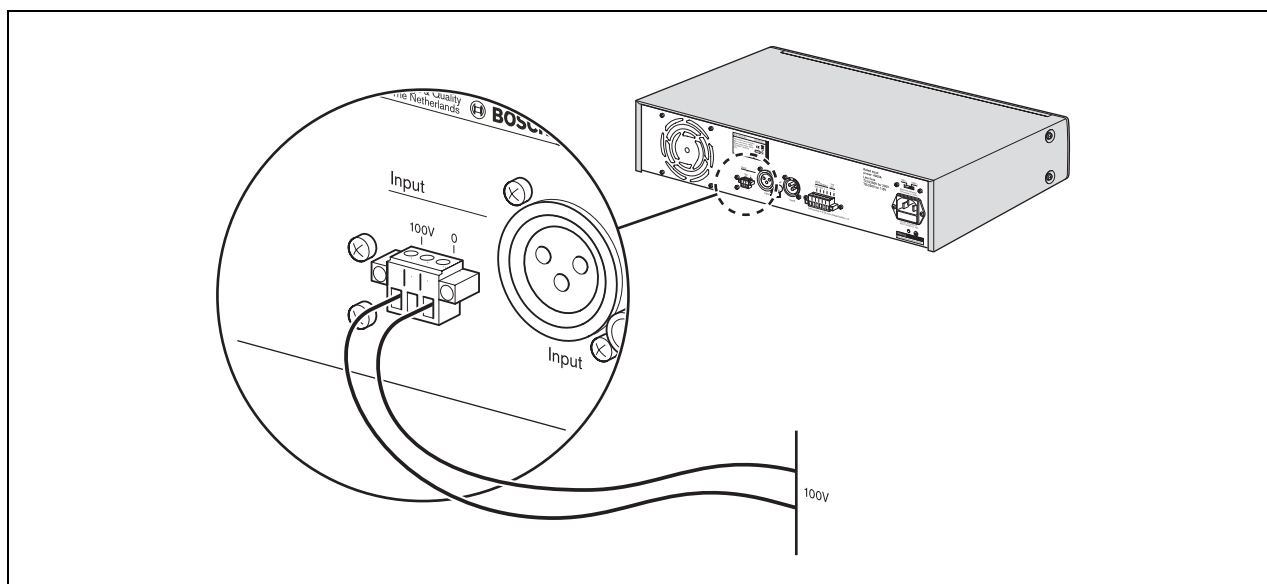

figure 4.2: Connecting a 100 Volt input signal
A 100 V input signal can be connected to the Euro style pluggable screw terminal connector (2) at the rear of the unit as shown in figure 4.2.